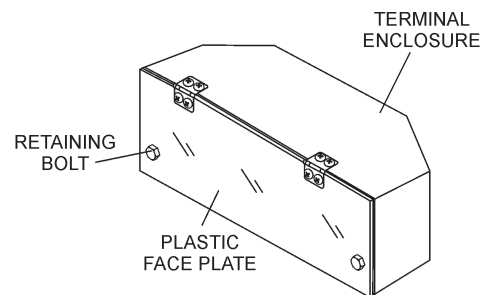

Figure 10. Plastic Face Plate (Output Terminal)
The **Output Terminal Lugs** are protected by a plastic face plate cover (Figure 10). Un-screw the securing bolts (2) and raise the plastic face plate to gain access to the output terminal lugs.